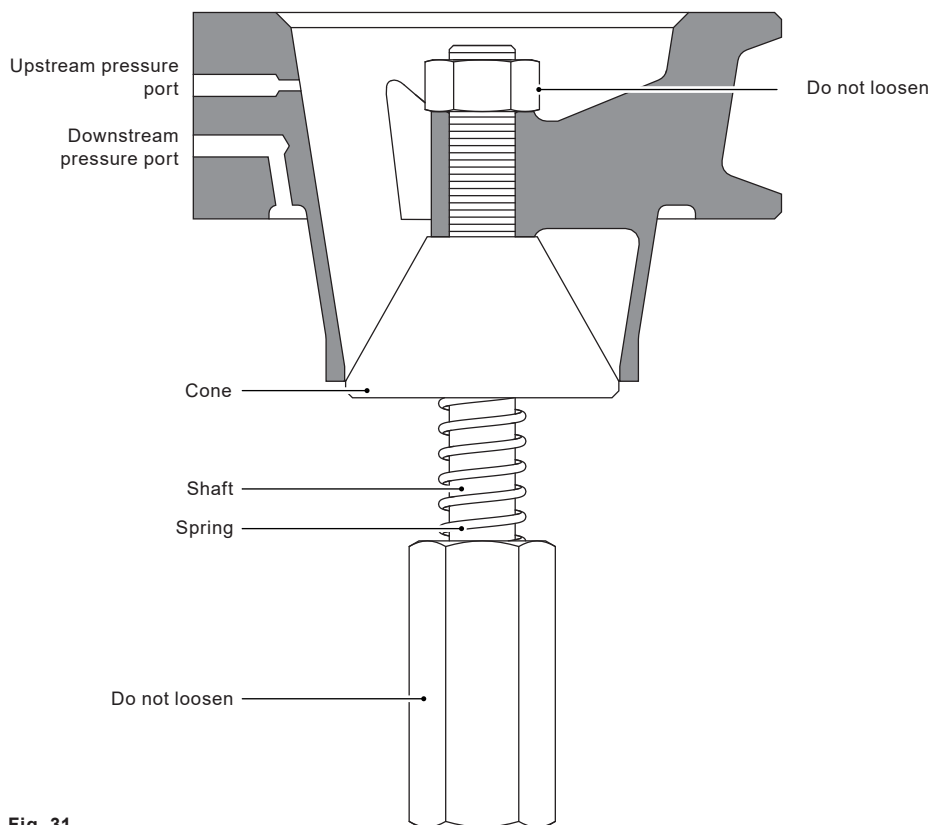

Fig. 31
5. Disconnect the sensor cable from the terminal block. See Figure 31.